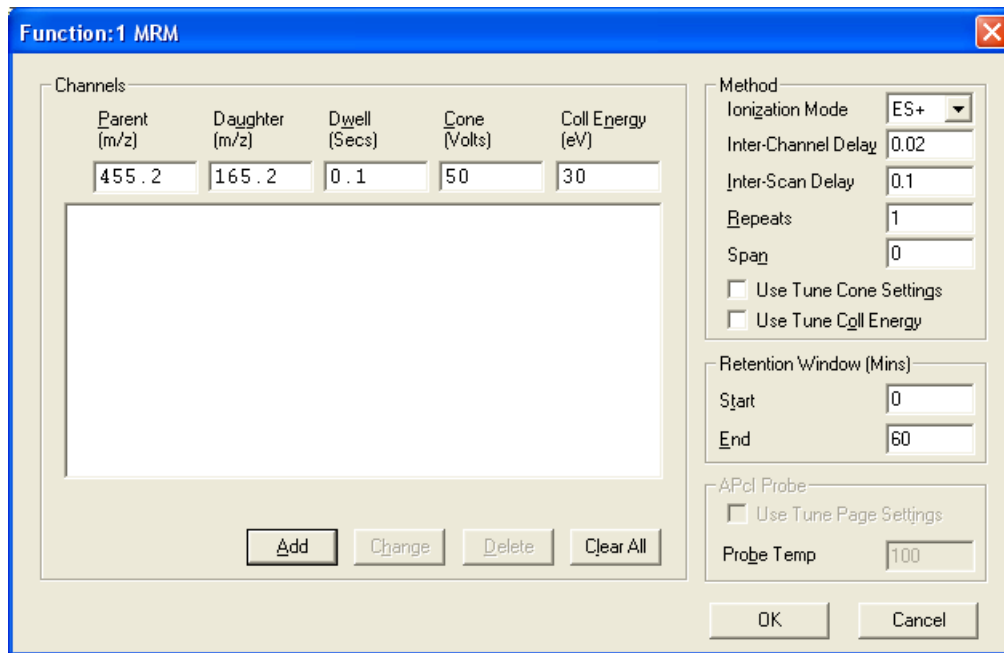

Figure 2-9 MRM Function Editor
4. Enter the value recorded in Section 2.2.1, step 31 on page 28, in the Parent (m/z) box (Figure 2-9).